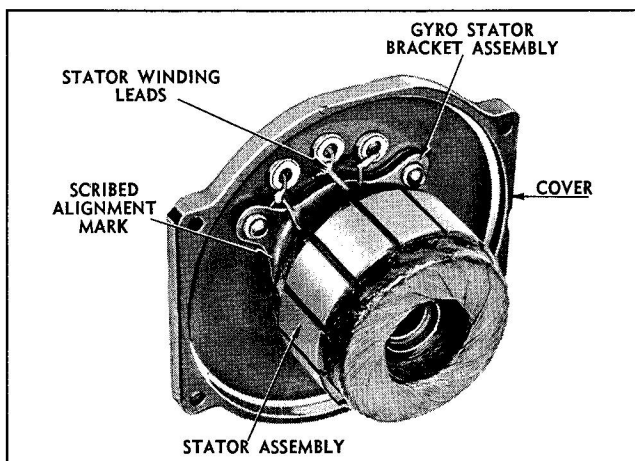

Figure 2-18 Gyro Cover and Stator Assembly
(5) Draw a pencil line across the joint between the gyro stator support bracket and cover so that they may be reassembled in exactly the same relation to each other. (See figure 2-18.)
(6) Unscrew the three special screws and lockwashers that hold the gyro bracket assembly. Work the stator bracket assembly loose from the gyro cover and carefully unwind the stator winding leads so that the stator bracket may be drawn away from the cover and expose the bearing recess. Do not unsolder the leads unless sufficient clearance is not obtained. (See figures 2-18 and 2-19 for assembly and exploded views of gyro cover and stator assembly.) Caution should be exercised to prevent damage to the stator winding if a tool is used to assist in the separation.
(7) Remove the spring from the cover.
(8) Remove the bridge from the bore. This is a loose fit and should come out easily.
(9) Using Bearing Puller T-100371 remove the remaining rotor bearing from the gyro stator assembly and place under a dustproof cover as before.